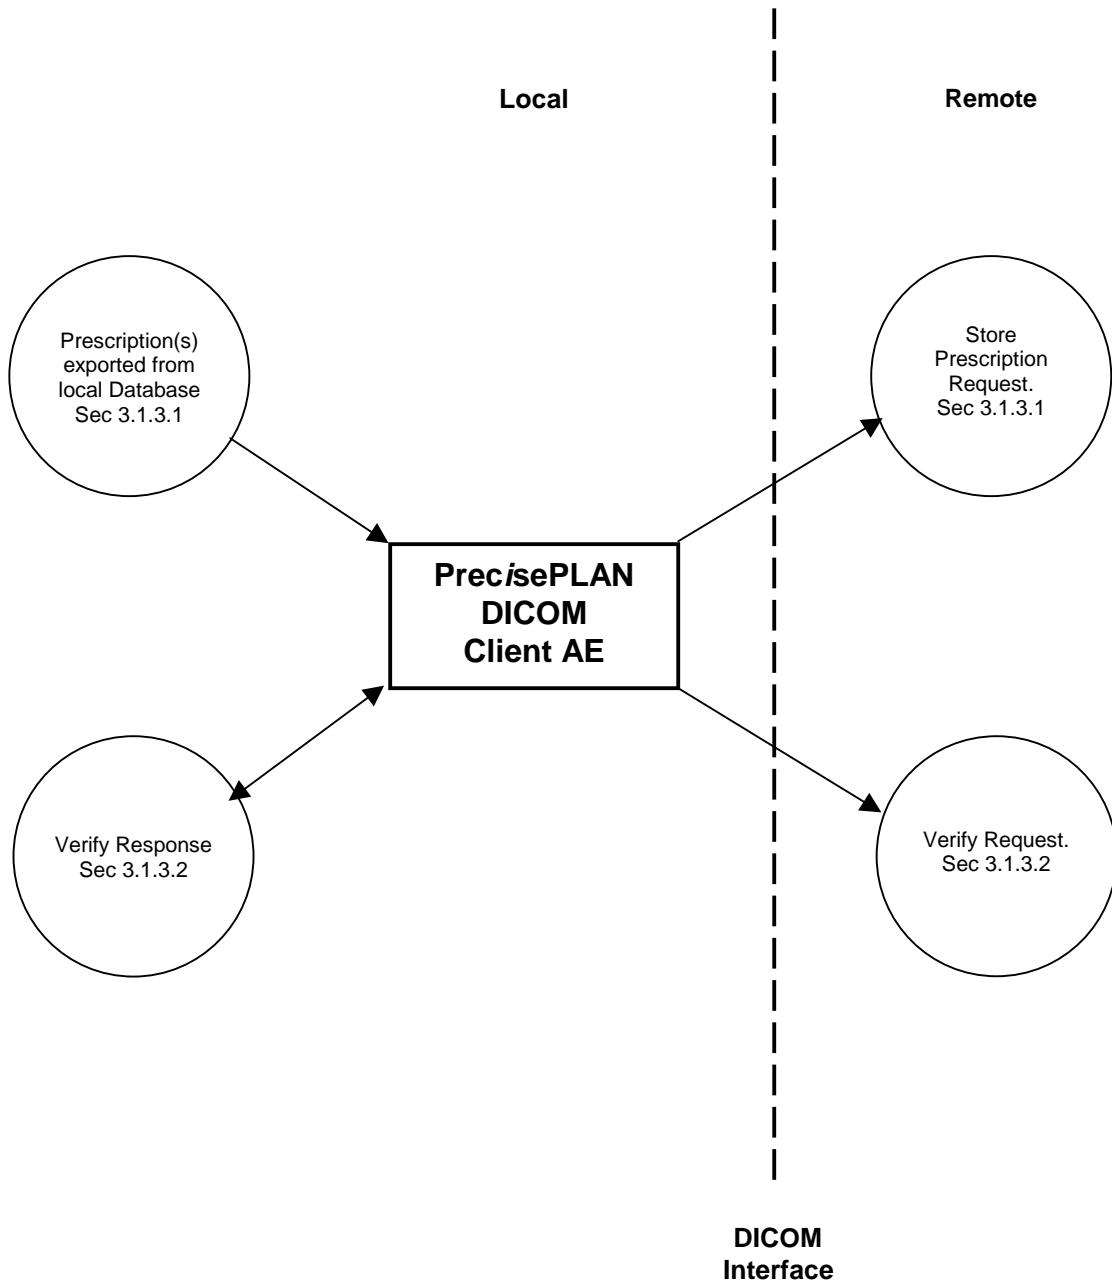

Figure 1 PrecisePLAN rtClient Implementation Model
The PrecisePLAN rtClient behaves as a single Application Entity (AE). The related Implementation Model is shown in Figure 1 below.